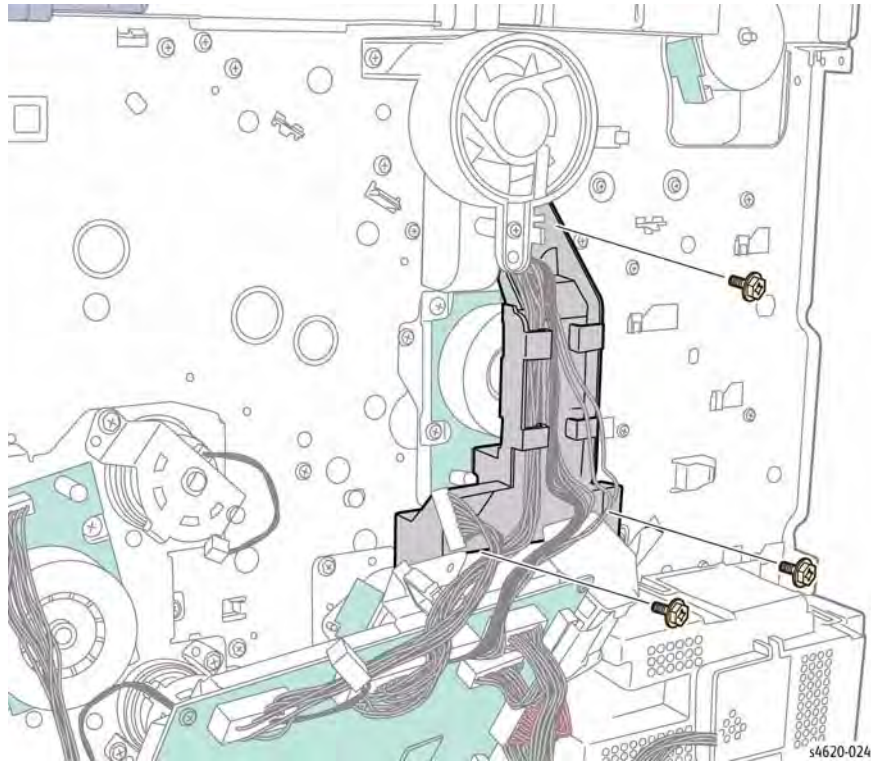

Figure 4 Remove the center harness guide screws
12. Remove 3 screws (metal) that secure the center harness guide to the chassis and move the guide away from the Fuser Drive Assembly, Figure 4.